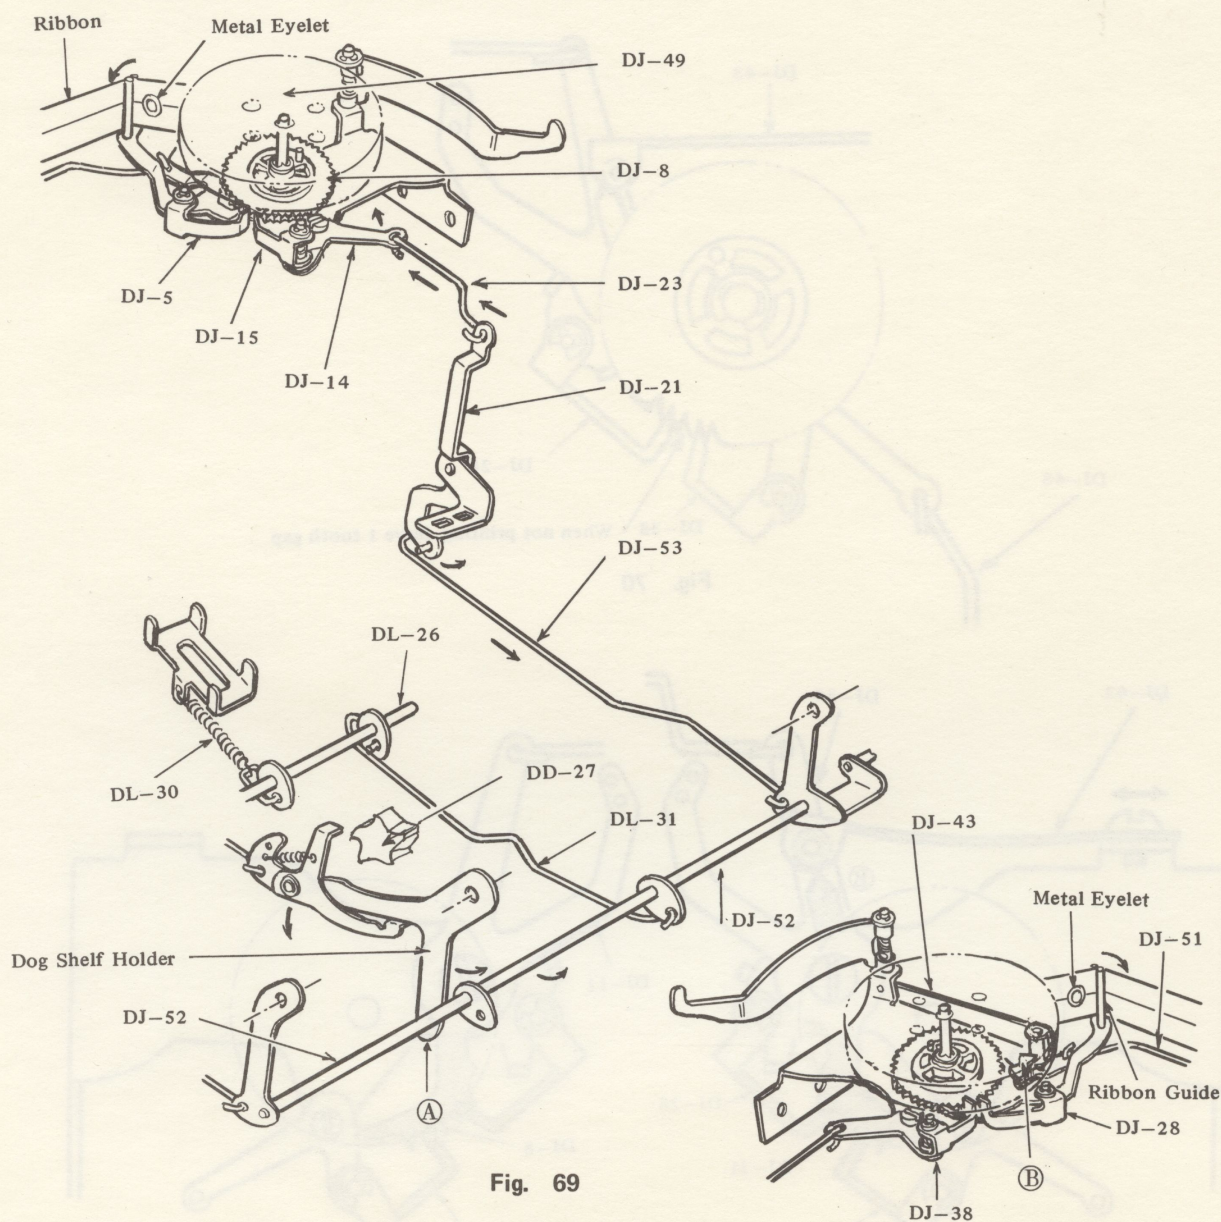

Fig. 69
As DJ-34 and DJ-11 (Ribbon Releaser: right) are interconnected by DJ-51 (Ribbon Change Wire), at the position where the (B) portion rides across DJ-43, one side of Ribbon Releaser release Ribbon Feed Pawl and Backlash Stopper (DJ-5 & 28) from Ribbon Ratchet Wheel, and meanwhile the other Ribbon Feed Pawl and Backlash Stopper will engage with Ribbon Ratchet Wheel, resulting Ribbon will be rolled up to the opposite direction. (Fig. 69)